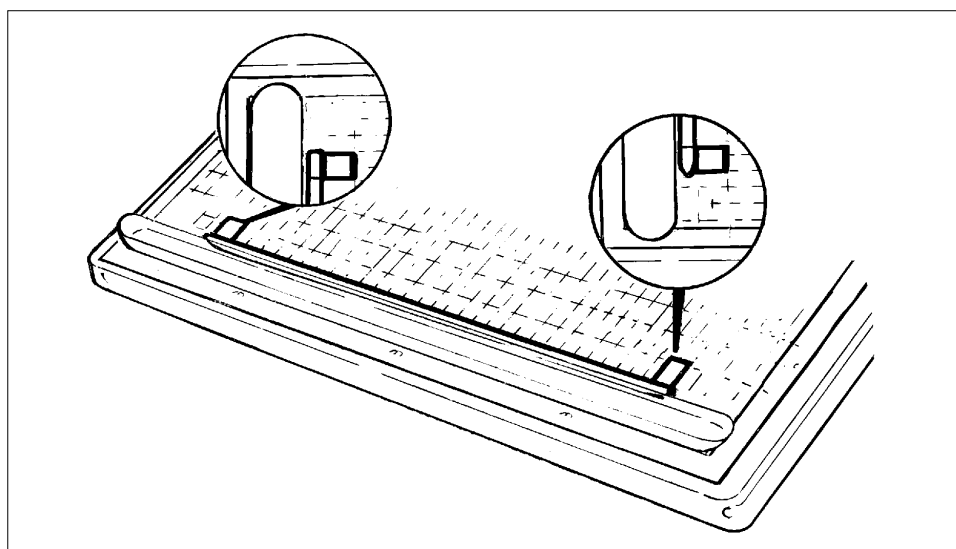

Fig. 29.
- Place sample application pieces at each end of the strips (Fig. 29).